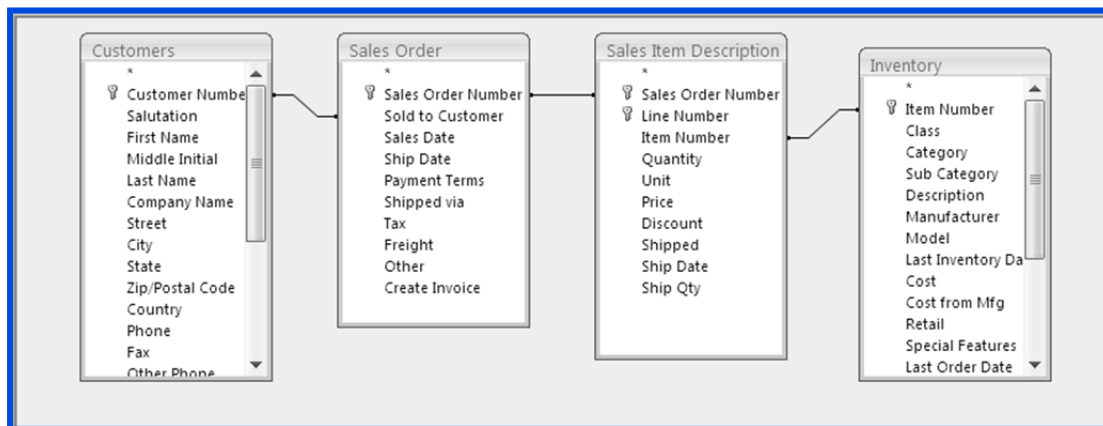

Fig. 2.3.14. Query Design window
2. Select the tables *Customers*, *Sales Order*, *Sales Item Description* and *Inventory* table from the *Show Table* window. Click *OK* to close the window. The *Query Design* window appears, as shown in Fig. 2.3.14.